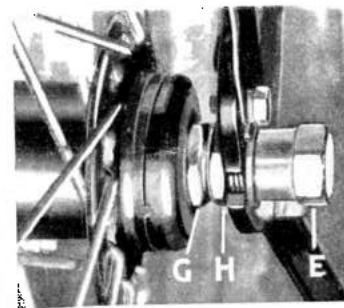

Fig. 16 Rear Wheel Bearing Adjustment.
Screw off the two thin adjusting and locking nuts (G and H, Fig. 16) and tap out the spindle towards the brake drum side. Prise off the two dirt excluding covers; these will probably be damaged and therefore require replacement. The inner races, rollers and cages of the taper roller bearings will drop out complete.
4. WHEEL BEARING ADJUSTMENTS. (See Fig. 16)